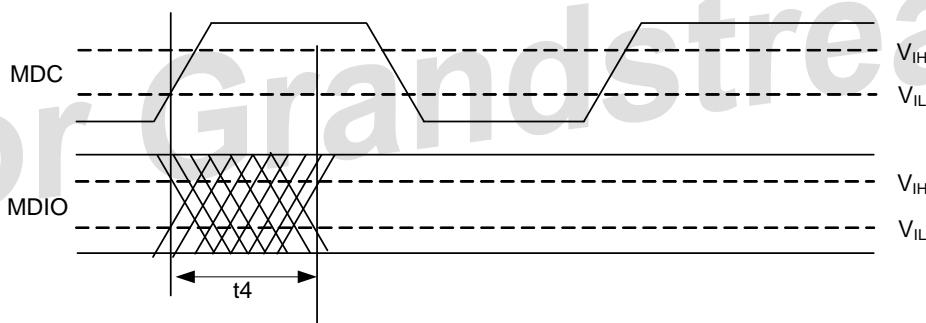

Figure 18. MDIO Sourced by RTL8218D (Slave)
- The timing characteristics t4 (Figure 18) of the Slave (RTL8218D) are provided by the RTL8218D when the RTL8218D sources the MDIO signal (Read command)